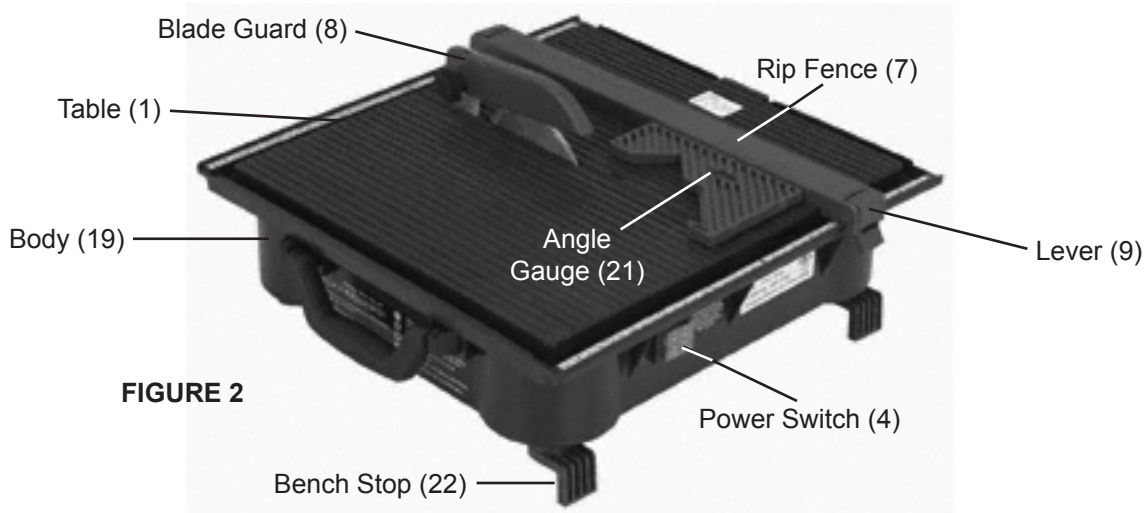

FIGURE 2
1. **WARNING! Make sure the Power Switch (4) of the Tile Saw is in its "OFF" position and its Power Cord (11) is unplugged from the electrical outlet prior to performing any assembly.**
2. Remove the Screw (16) that holds the Table (1) in place and left the Table until the three catches at its midsection clear the Table's underside. Then remove table completely. (See Figure 2, next page.)